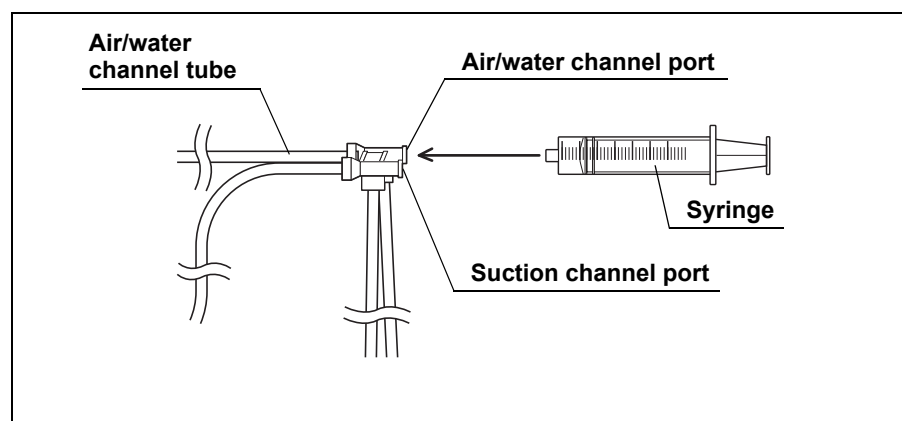

Figure 5.37
5. Move the syringe to the air/water channel port of the injection tube and flush the air/water channel with 90 ml of water (i.e., pump the syringe at least three times). (See Figure 5.37)
9. Move the syringe to the air/water channel port of the injection tube and flush the air/water channel with 90 ml of air. (See Figure 5.37)
3. Move the syringe to the air/water channel port of the injection tube and forcefully flush the air/water channel with 180 ml of the disinfectant solution. Confirm that no air bubbles exit the distal end during the sixth flush. If air bubbles still exit, flush the channel with the disinfectant solution until no air bubbles exit. (See Figure 5.37)
4. Move the syringe to the air/water channel port of the injection tube and flush the air/water channel with 90 ml of air. (See Figure 5.37)